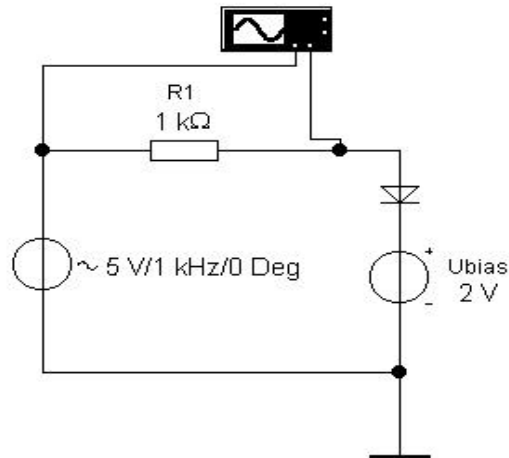

Figure 5.1
- (a) Connect the circuit shown in Figure 5.1 below. How does the circuit work? What will happen if the voltage U_{bias} is changed? How does the resistance R_f influence the results?